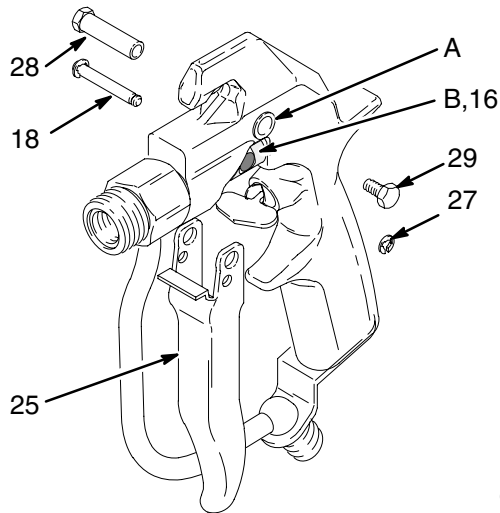

Fig. 20
8. Position the trigger (25) on the gun body. Insert the pivot pin (28) into the top hole (A) and secure with the screw (29) on the other side. Place an e-clip (27) on one end of the trigger pin (18). Slide the pin through lower trigger holes and through the slot (B) in the spring guide (16) (turn the spring guide to align, as needed). Install the other e-clip (27). See Fig. 20.